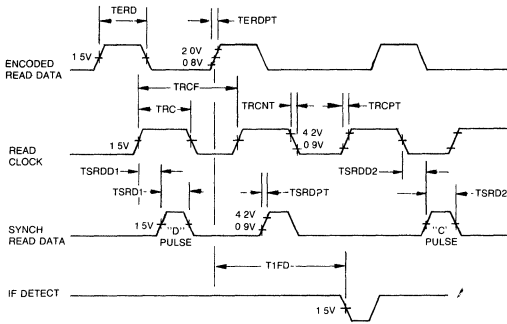

Figure 1 - Data Detection and Synchronizing Waveforms
**Data Detection Characteristics (Ref Figure 1)**